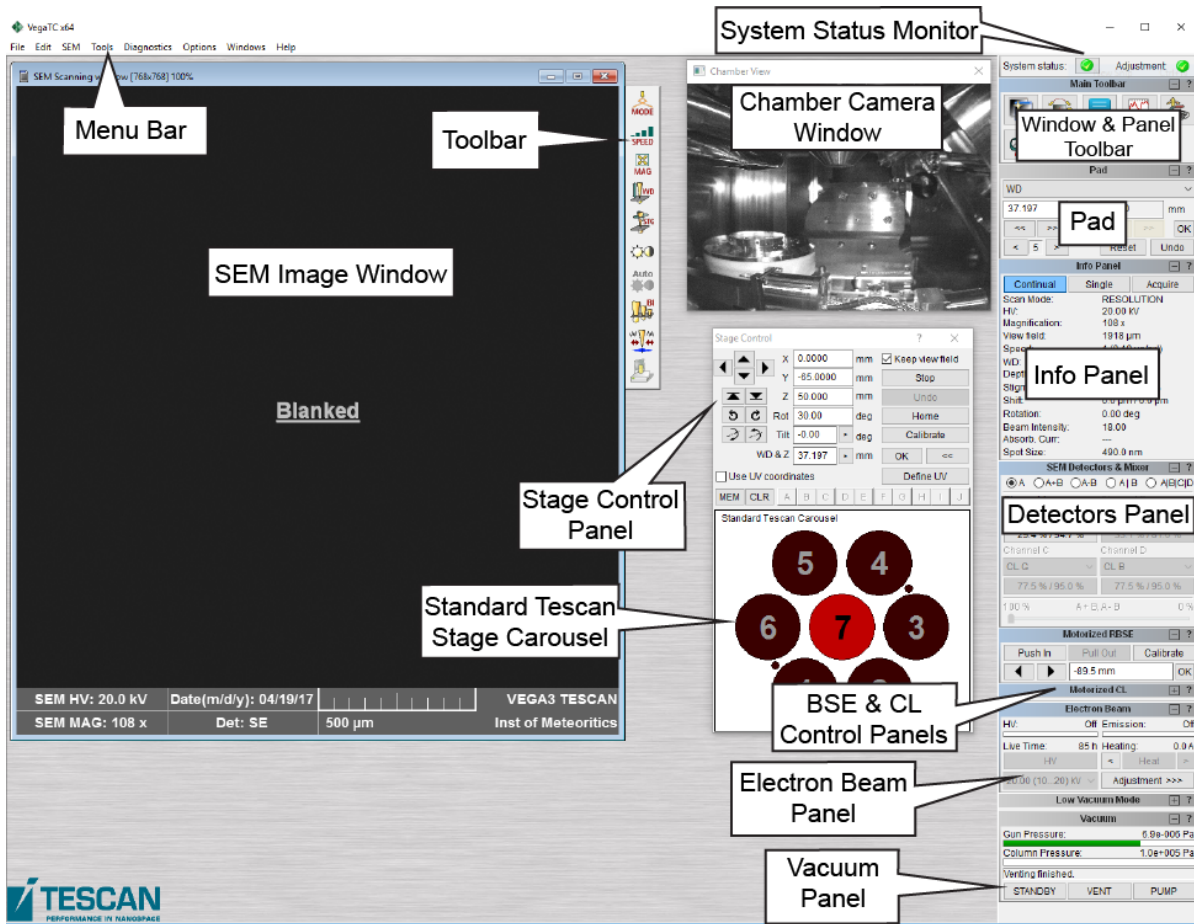

Figure 1. Tescan operation window.
**Note:** for the following discussion, **BOLD CAPS** indicate the appropriate button or action to select; **SMALL CAPS** indicate the control panels or software windows. See Figure 1 for explanation of operating system window with the various panels described in this manual.